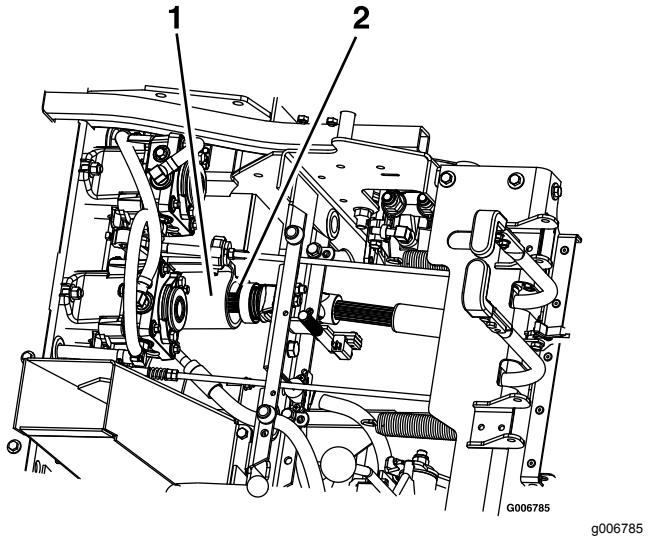

Figure 70
8. Raise the seat and disconnect the drive shaft using the quick coupler at the jackshaft (Figure 70).
3. Raise the seat and install the drive shaft onto the jackshaft (Figure 70)